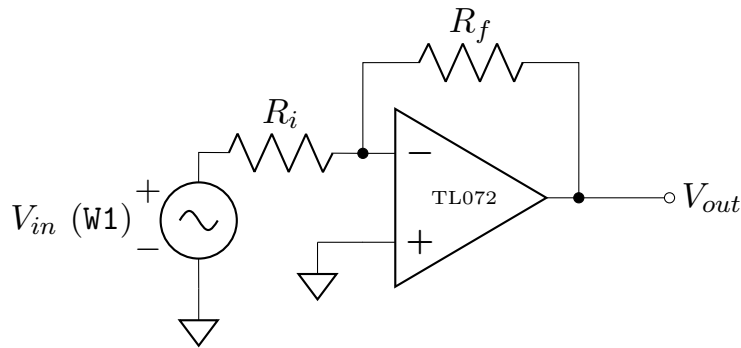

Figure 6: Inverting Amplifier with Fixed Gain
Assemble the following circuit in Figure 6 on your breadboard. Use a $4.7\text{k}\Omega$ resistor for R_f and a $1\text{k}\Omega$ resistor for R_i .
- 3.3** Calculate the gain for the circuit in Figure 6 given an ideal op-amp. Show that, for the resistance values used, the ideal gain is approximate to the measured gain.